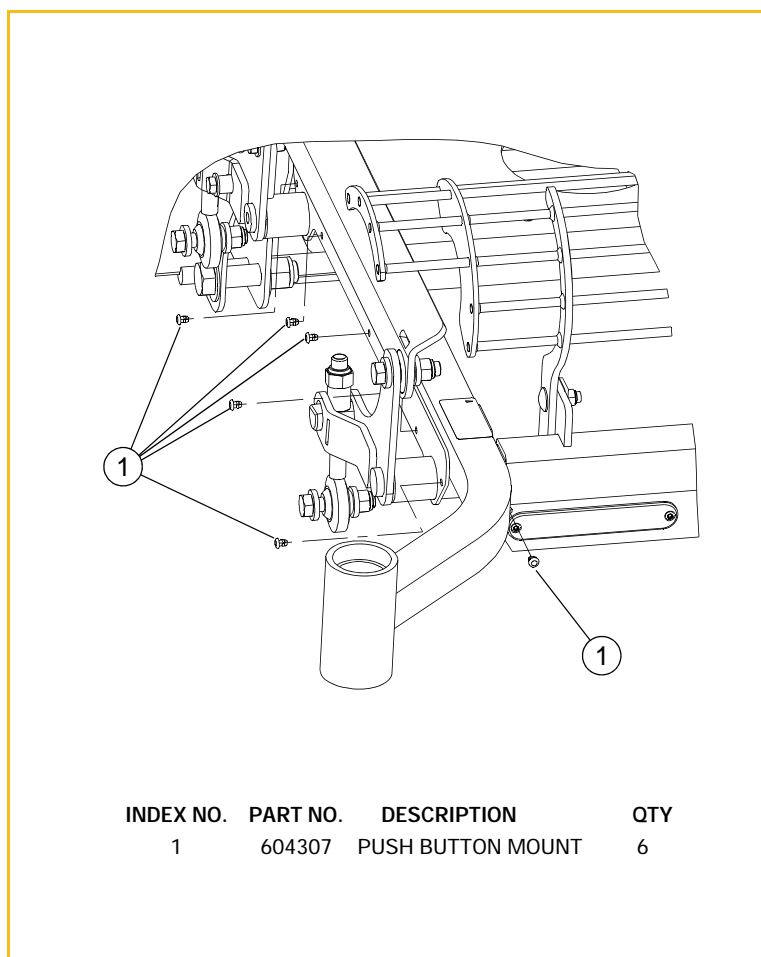

FIG. 3
7. Insert push button mounts into the mounting holes located in the frame. FIG. 3